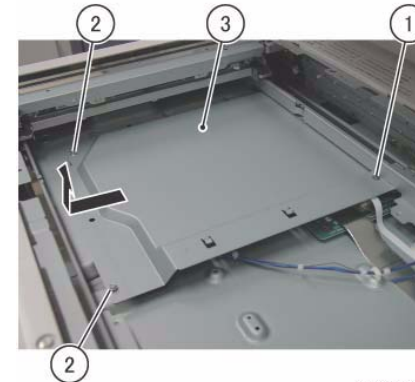

Figure 1 Remove the PWB Cover
5. Remove the PWB Cover. (Figure 1)